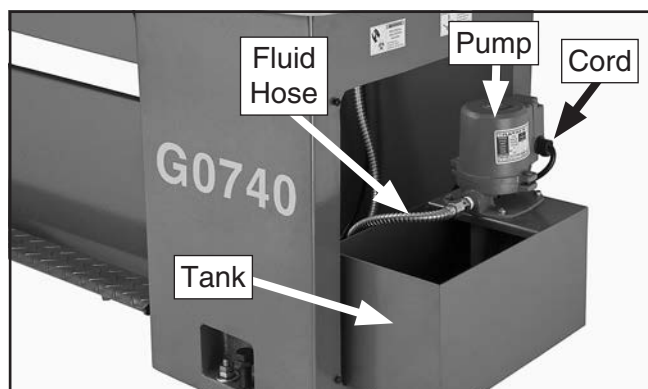

Figure 112. Coolant tank and pump.
2. Remove the vented access cover from the side of the right stand, then slide the tank out, as shown in **Figure 112**.
6. To enable the remaining fluid to be poured out in the next step, disconnect the fluid hose from the pump (see **Figure 112**).